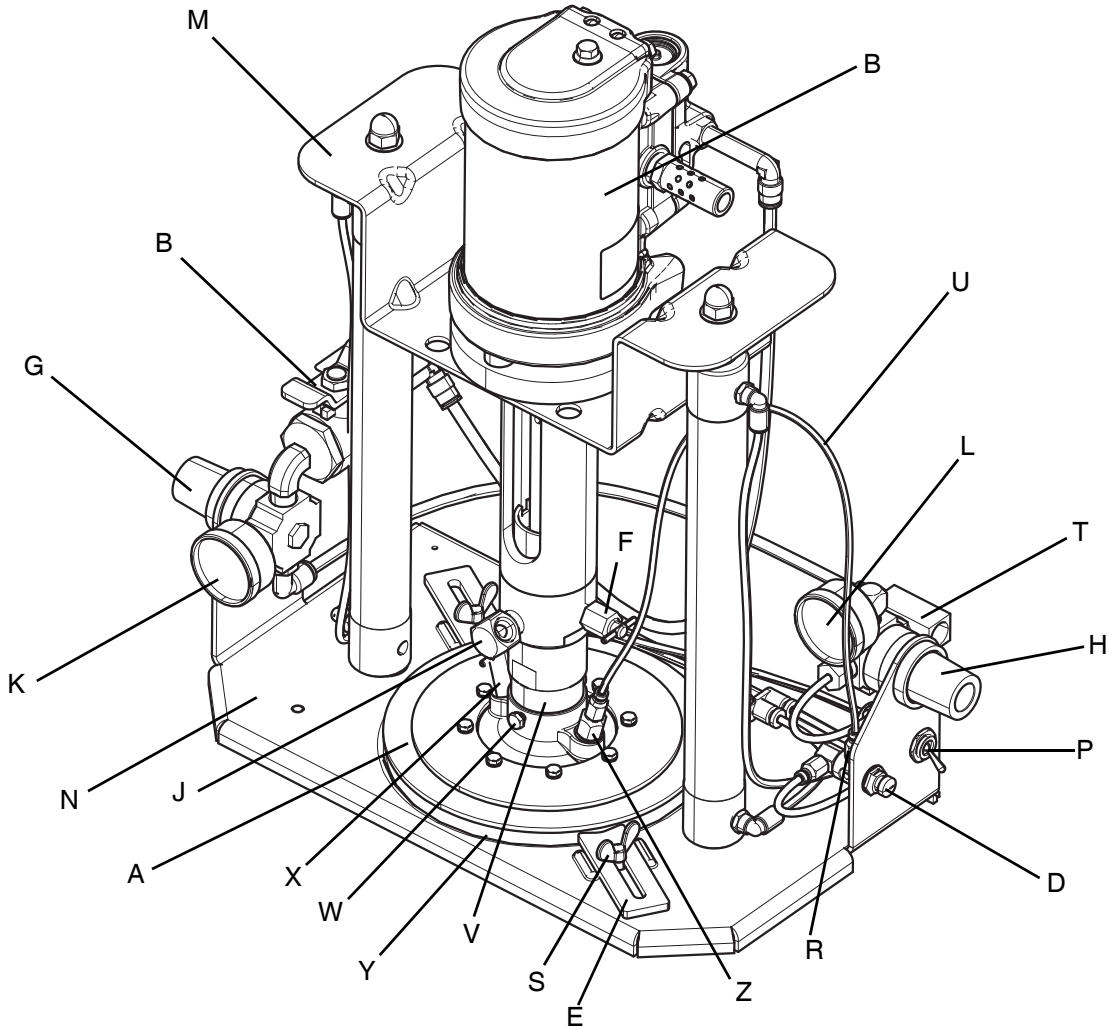

FIG. 1: System Components
NOTE: Reference numbers and letters in parentheses in the text refer to the callouts in FIG. 1 on page 6 and the parts drawings. Refer to those for installation.
2. See **Pump Components and Accessories** on page 8. Connect an air supply hose to the 1/4 npt(f) main air line inlet fitting (T). See FIG. 1 on page 6. See **Connect and Disconnect Tubes** on page 8.
The following components are supplied with the pump (see FIG. 1 on page 6).